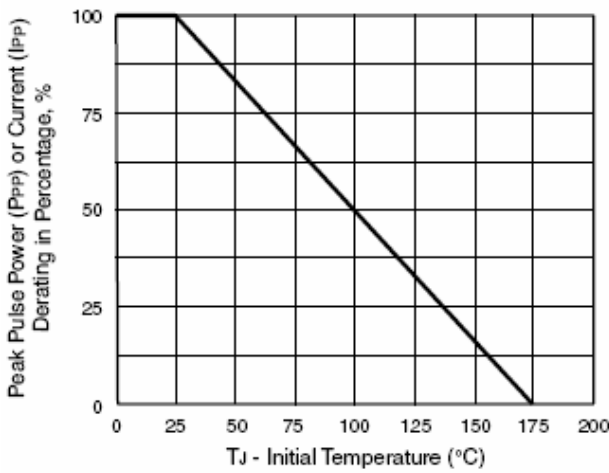
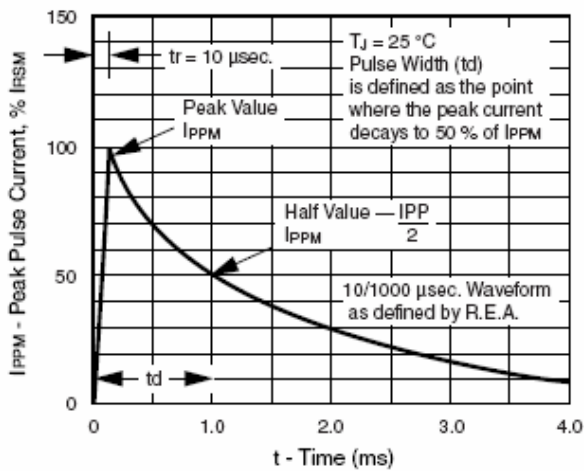

Figure 2. Pulse Power or Current versus Initial Junction Temperature
Figure 3. Pulse Waveform
(1) Non-repetitive current pulse, per Fig. 3 and derated above $T_A = 25^\circ C$ per Fig. 2
(2) Measured on 8.3 ms single half sine-wave or equivalent square wave, duty cycle = 4 per minute maximum